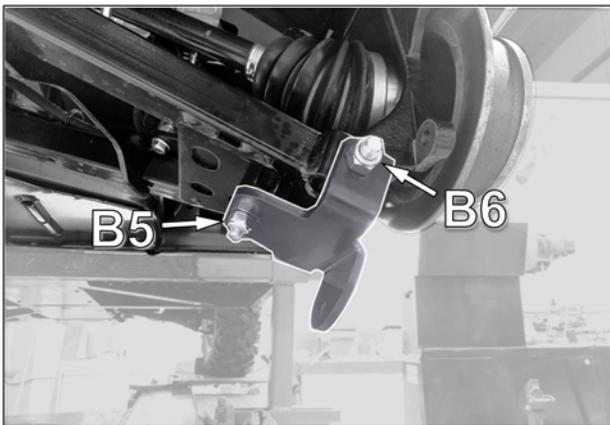

Fig. 6
6. Install the provided nuts (B5 - B6) on the bolts and tighten them to 50 N•m [37 lb•ft] of torque. Fig. 6